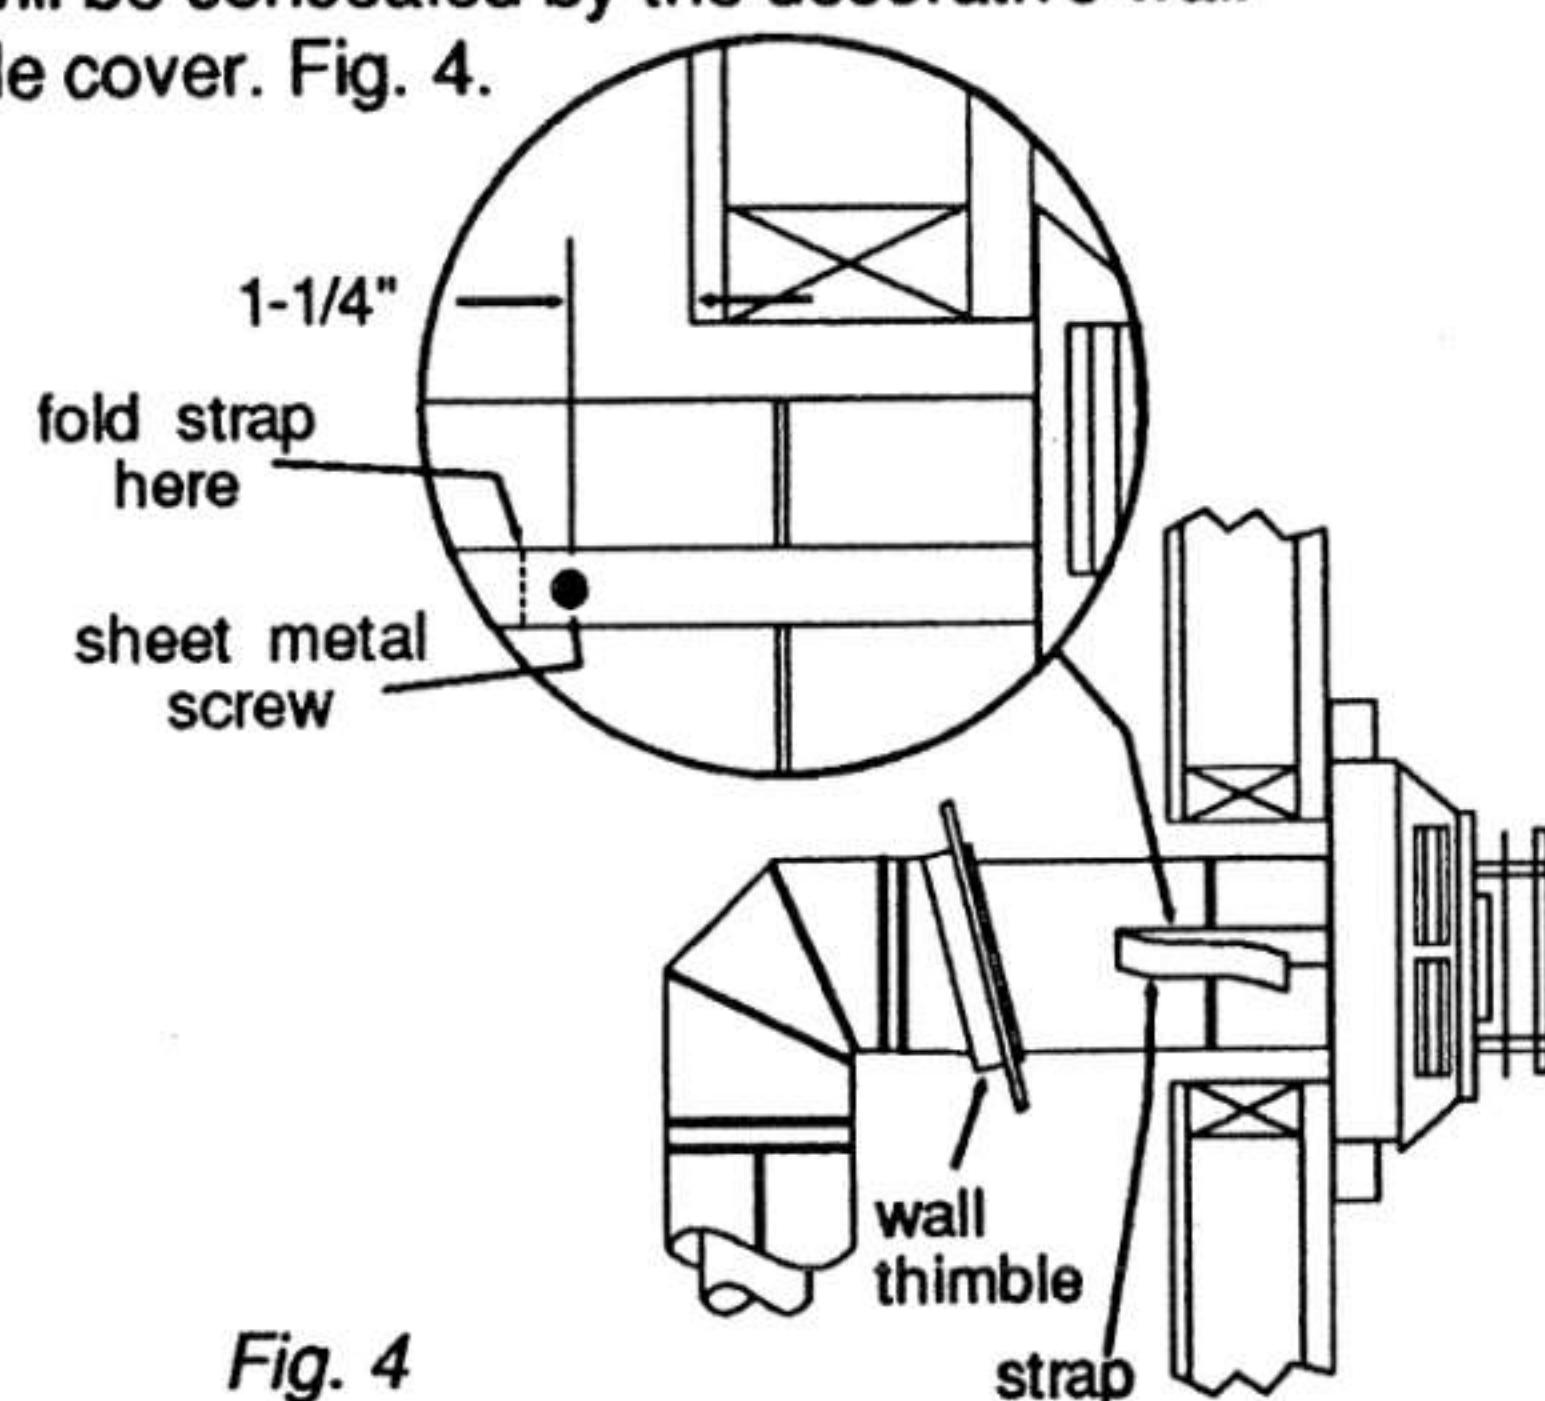

Fig. 4
7) Slide the appliance and vent assembly towards the wall carefully inserting the vent pipe into the vent cap assembly. It is important that the vent pipe extends into the vent cap sufficient distance so as to result in a minimum pipe overlap of 1-1/4 inches. Secure the connection between the vent pipe and the vent cap by attaching the two sheet metal strips extending from the vent cap assembly into the outer wall of the vent pipe. Use the two sheet metal screws provided to connect the strips to the pipe section. Bend any remaining portion of the sheet metal strip back towards the vent cap, so it will be concealed by the decorative wall thimble cover. Fig. 4.